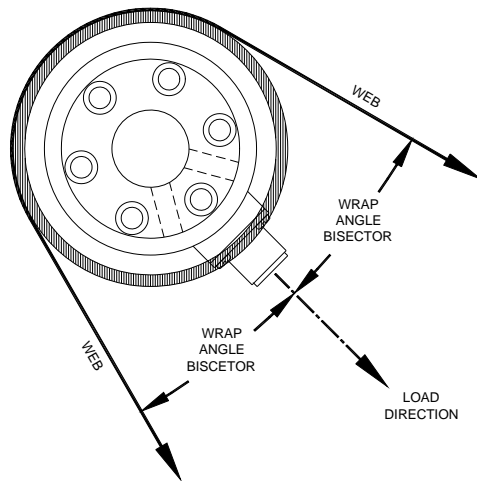

Figure 12 - Proper Orientation of the Cantilever Transducer
Stud (S)	Before tightening the mounting bolt, rotate the transducer body until the force direction (indicated by the arrow on the label) is aligned with the vector of the web force. The vector of the web force is the bisector of the wrap angle. Refer to Figure 12.